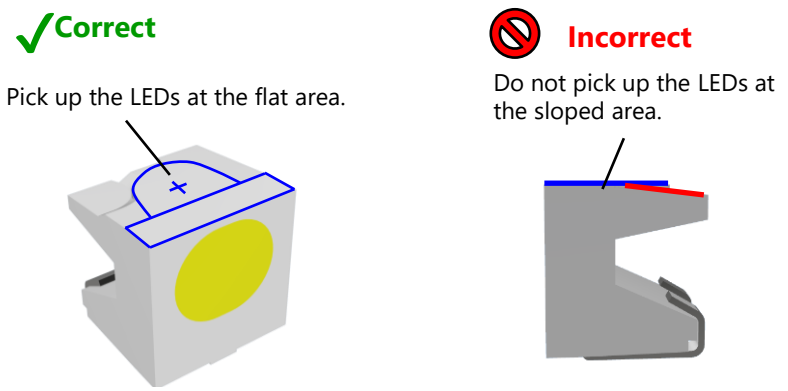

Figure 2. Correct/Incorrect LED Pick-up Position
1. Pick up the LEDs at the flat area of the LED; do not pick up the LEDs at the sloped area (see Figure 2).